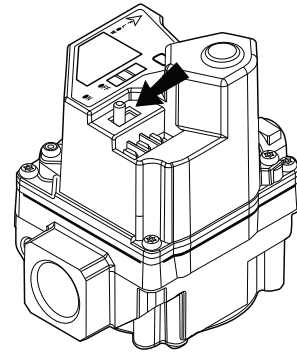

Fig. 16 — Gas Valve Switch - ON
4. Move the switch on all internal gas valves from the “ON” position to the “OFF” position. See Fig. 16 and 17 for examples of gas valve switch in the on and off positions.
7. Move the switch on all gas valves to the “ON” position. See Fig. 16 for example of the valve in the on position.